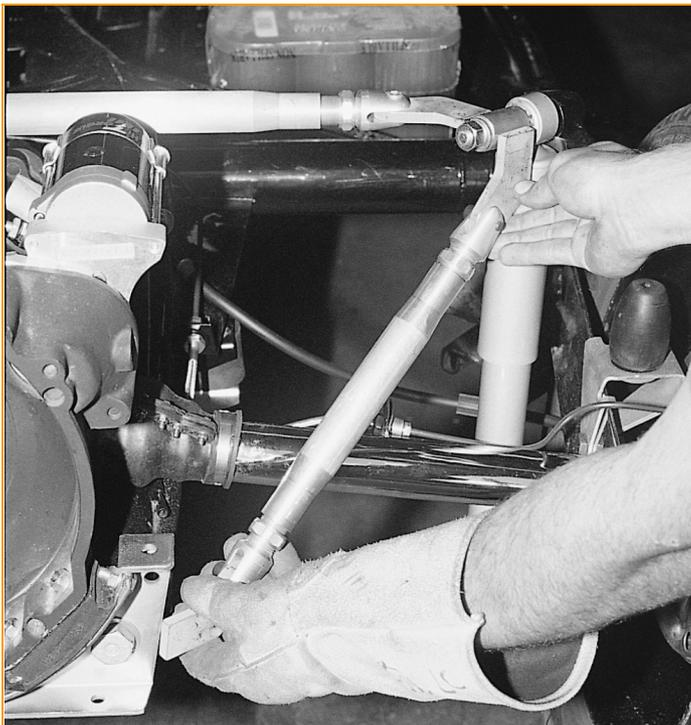

Fig.4
- If you use the suggested heavy duty transmission mount the brackets can also be installed to the side of the transmission mount (see Fig.4). You should avoid welding the